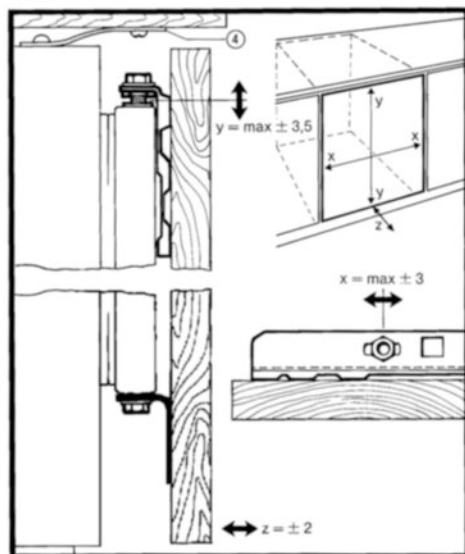

Fig. D2
● Pre-adjust the appliance at slots ① (fig.D2) in the mounting plate on the worktop.
● **Adjust height Y** at locating pin (14 mm wrench) as shown in fig.D2, $Y = \max. \pm 3.5$ mm